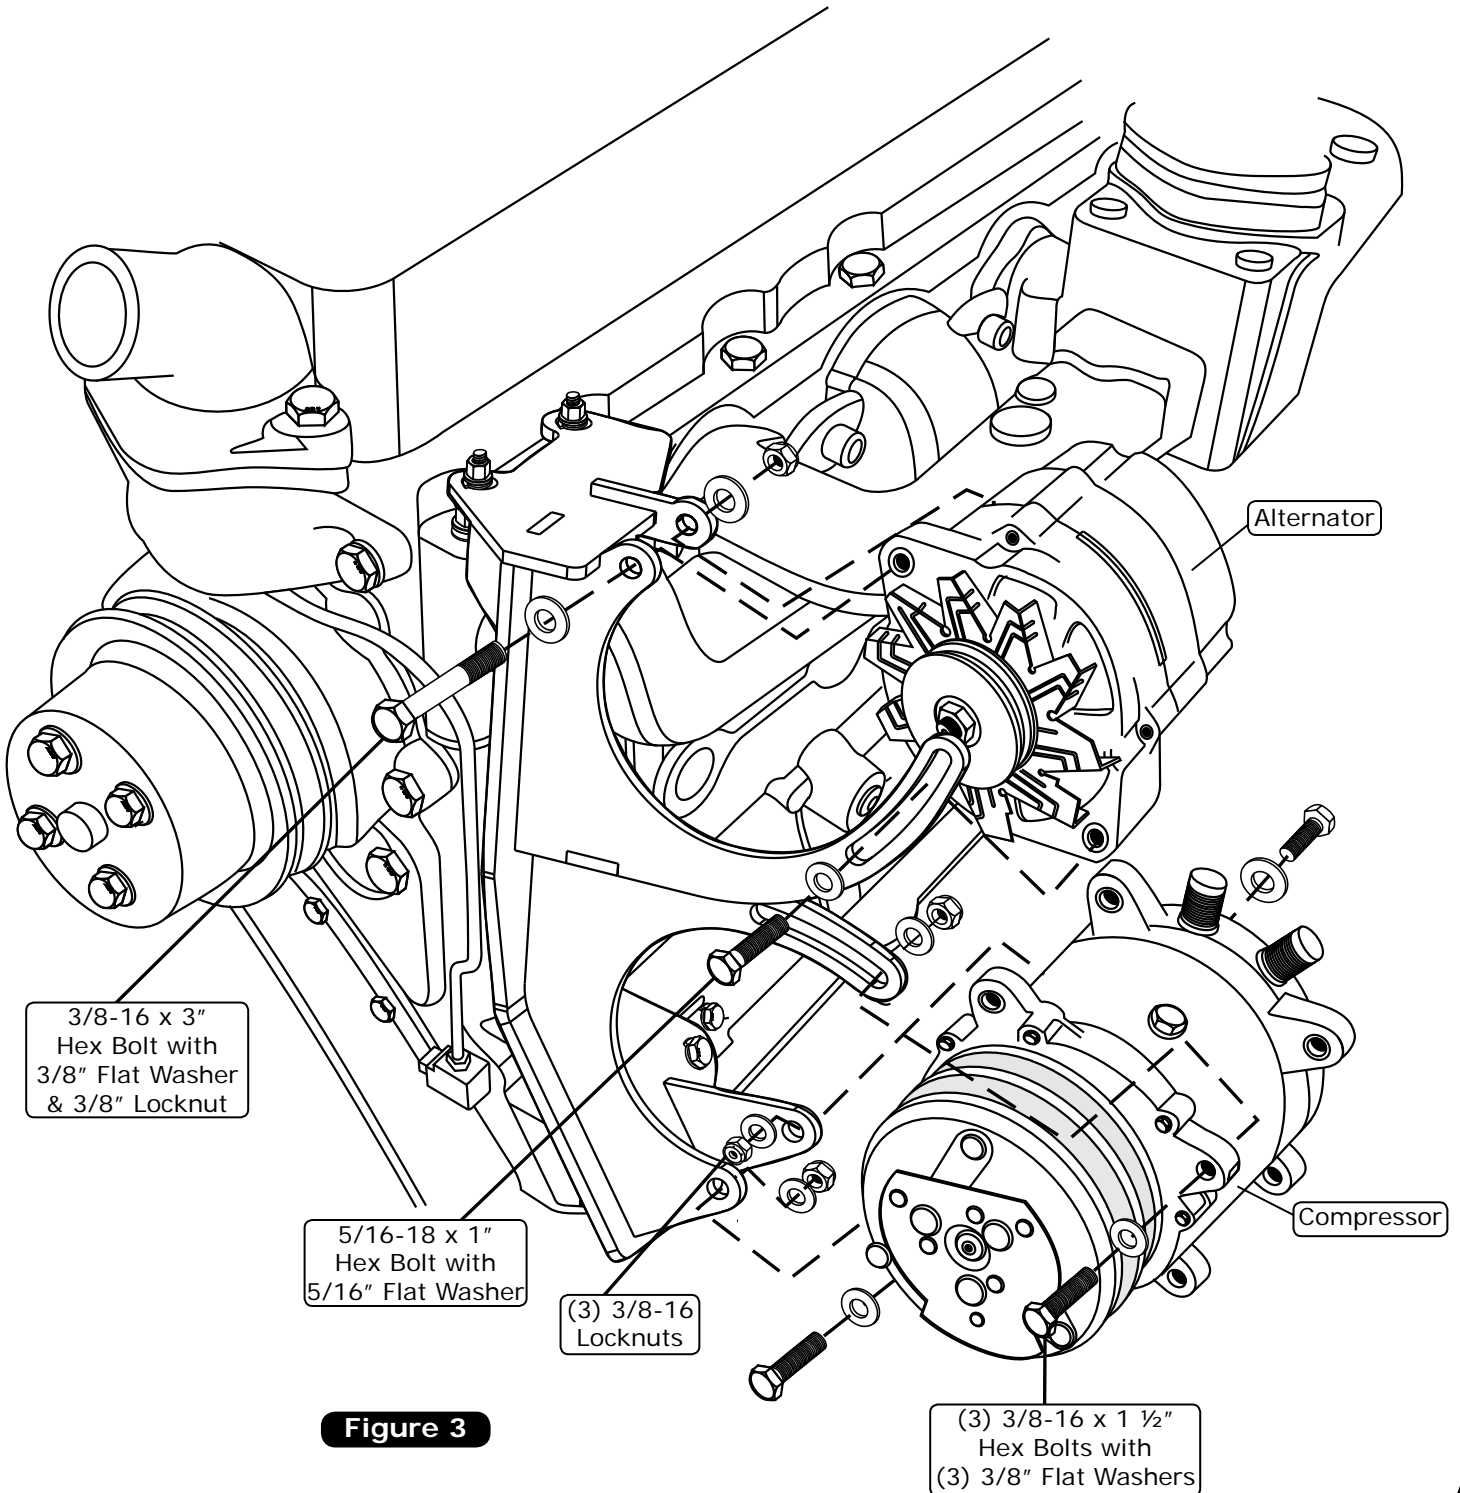

Figure 3
1. Install the compressor onto the mounting bracket using (3) 3/8-16 x 1 1/2" bolts, (3) 3/8" flat washers and (3) 3/8-16 locknuts as shown in Figure 3, below.
2. Install a 3/8-16 x 3" hex bolt with a 3/8" flat washer onto the top of the alternator and mount as shown in Figure 3, below.
3. Using a 5/16-18 x 1" hex bolt and 5/16" flat washer, install the bottom of the alternator to the upright alternator mounting bracket as shown in Figure 3, below.